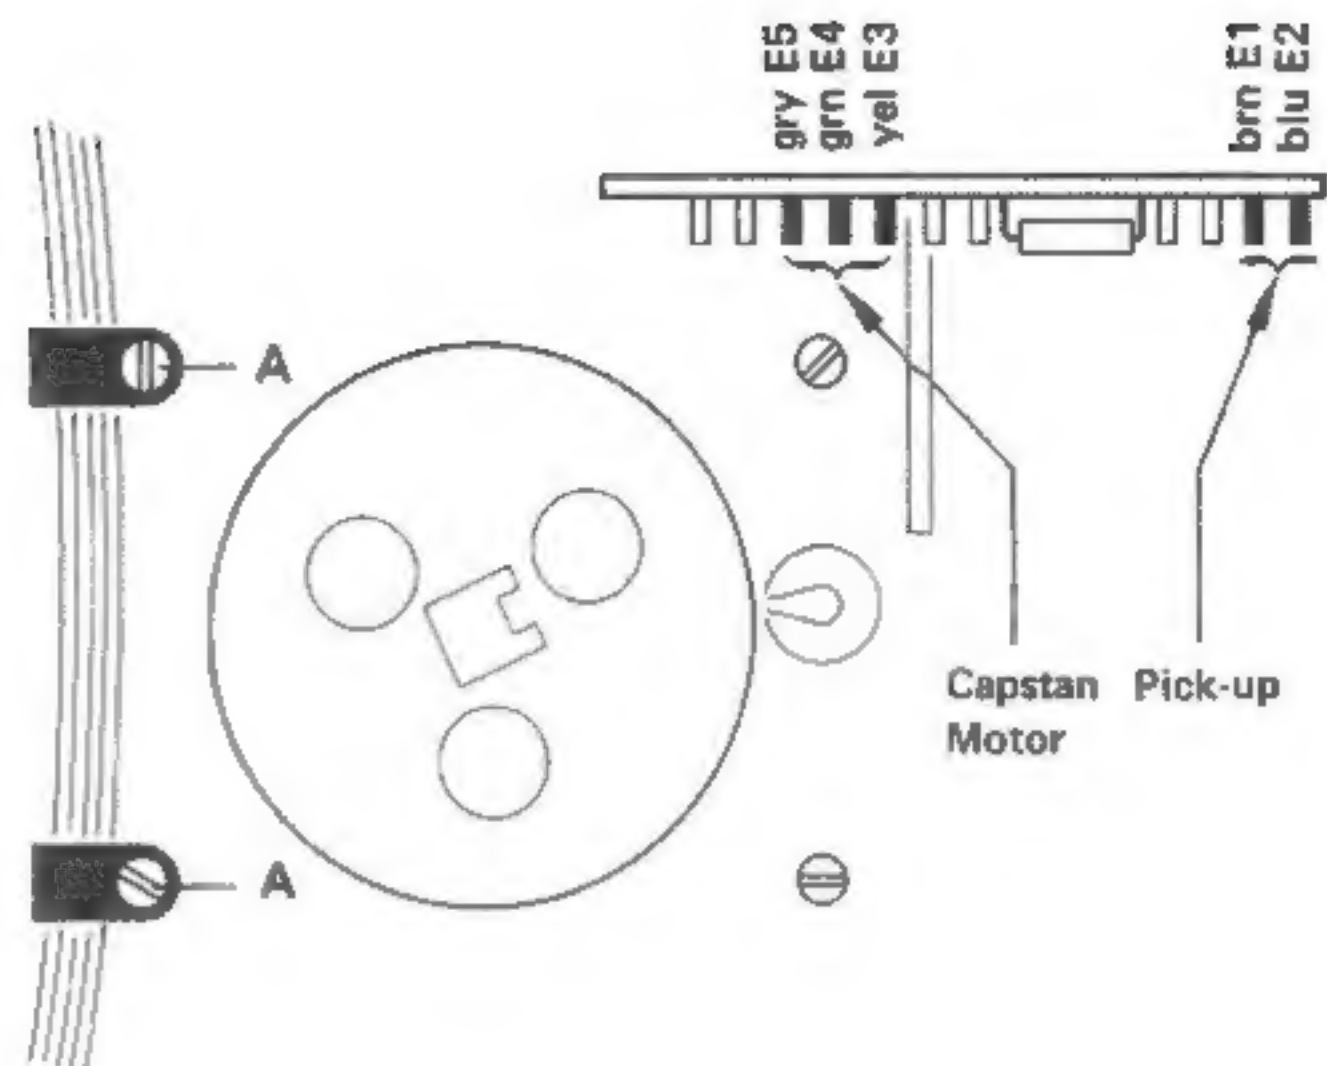

Fig. 3.7-9
- Disconnect capstan-motor and pick-up cables; connections are on control card (fig. 3.7-9).
- Undo cable clamps A (fig. 3.7-9).